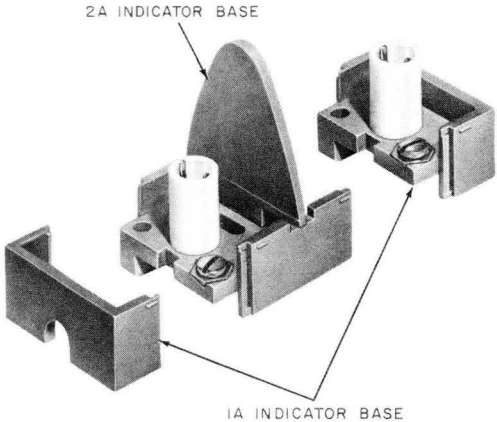

Fig. 3—1A and 2A Indicator Bases Used to Form a 2-Lamp Indicator
3.05 The 1A base separates into two parts which normally fit together with interlocking lip and grooves. This separation allows the insertion of one or more supplementary lamp units [use 2A base to create multiple lamp indicators (Fig. 3)].